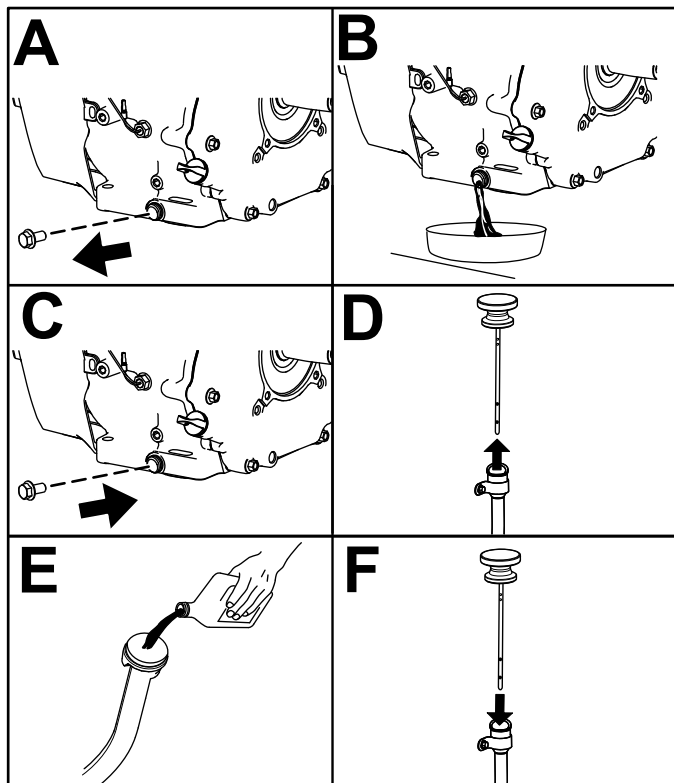

Figure 40
6. Change the engine oil as shown in Figure 40.